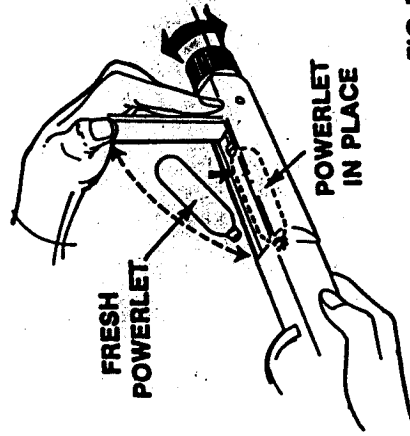

FIG. 5
2. Turn rifle over so Trigger faces up. (Fig. 5)
5. Drop in Powerlet with little end pointing toward trigger. (See Fig. 5) Close cover.